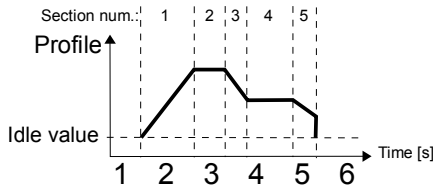

Fig. 7.105. Sample of Profile/timer
- **level (gate)** – this means that the Profile configured by the user when the source signal has the value > 0 , otherwise (if source value ≤ 0) the defined Profile will not be generated. See Fig. 7.105 and example a) in Fig. 7.106,
- **edge (once)** – this means that the Profile configured by the user will be triggered by the rising edge (from values ≤ 0 to the value > 0) of the source signal. After the rising edge the Profile will be generated in whole (once), regardless of further changes to the signal source, see Fig. 7.105 and example b) in Fig. 7.106,
- **edge (re-triggering)** – this means that the Profile configured by the user will be triggered by the rising edge (from values ≤ 0 to the value > 0) of the source signal. However, in this mode, unlike the edge (once) mode the defined Profile will be generated from the beginning every time the Triggering source signal generates an edge, whether that Profile had been completed or not. See Fig. 7.105 and example c) in Fig. 7.106,
Fig. 7.106. Samples of **Profile** output waveforms defined in Fig. 7.105, triggered by signal selected in **Triggering source** parameter for **Triggering mode: level (gate), edge (once), edge (retrig.)**